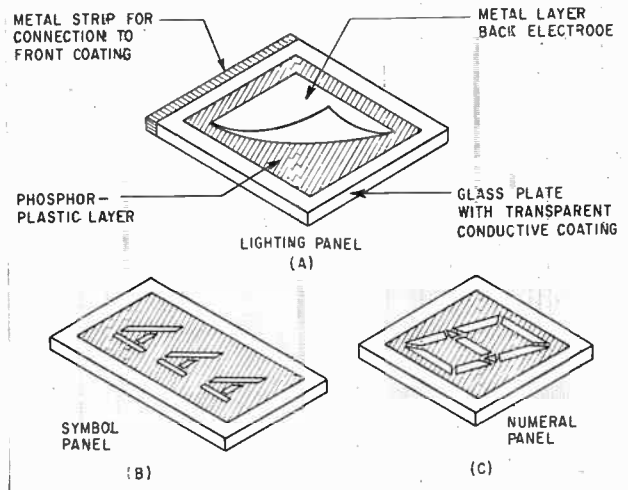

FIG. 1—Construction methods for EL panels used for lighting (A), symbols (B) and numerals (C)
FIG. 1—Normal display shown in (A). Display obliterated by radar interference (B). Display (C) is obscured by interference and after integration appears as (D). Display (E) shows same area as (D) on shorter range scale without integration
Intensity-modulated displays are extremely vulnerable to pulsed interference. Such interference can increase target detection time, and if very intense, can completely blank out a display. In the case of a search radar presentation as shown in Fig. 1, the target may never be seen. Tracking radars must be operated in an acquisition mode before the target can be tracked. In this mode, the target is often presented on an intensity-modulated display, and pulsed interference will either increase acquisition time or make target acquisition impossible. If the target is never acquired, the target gating circuit is of little or no use and the radar is rendered tactically inoperative.